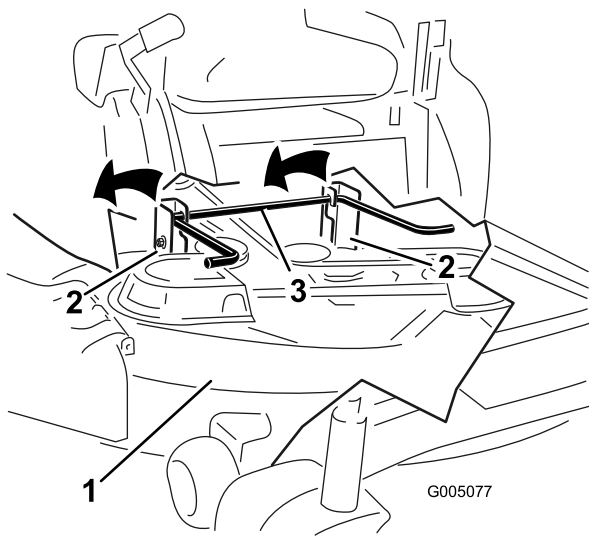
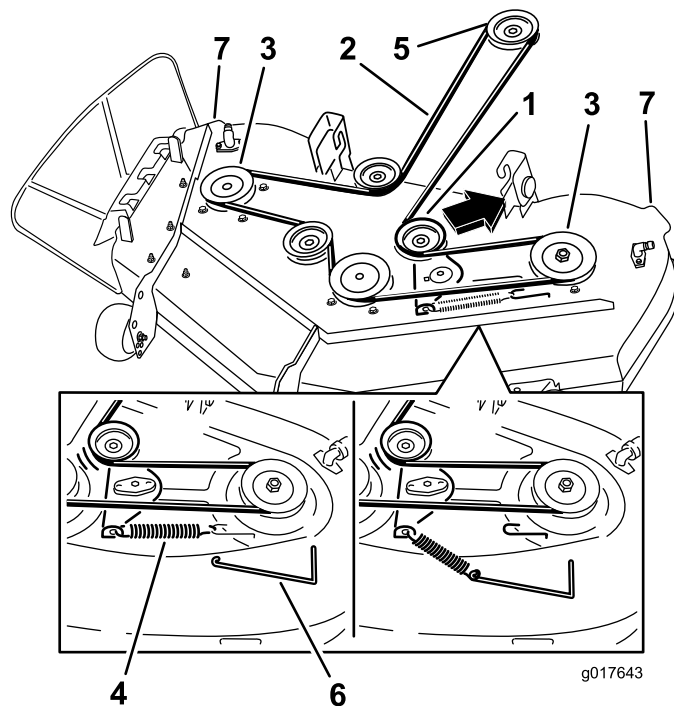

Figure 60
Figure 61
5. Using the mower deck handles, lift the mower deck and hanger brackets clear of the rear lift rod and lower the mower carefully to the ground (Figure 60 and Figure 61).
remove tension on the idler pulley and roll the belt off of the pulleys (Figure 61).
5. Route the new belt around the engine pulley and mower pulleys (Figure 61).
6. Using a spring removal tool, (Toro part no. 92-5771), install the idler spring over the deck hook and placing tension on the idler pulley and mower belt (Figure 61).
5. Lift the rear of the mower deck and guide the hanger brackets over the rear lift rod (Figure 60).